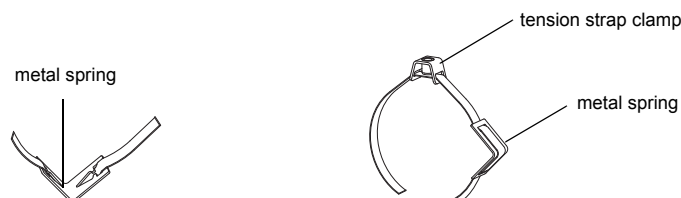

Fig. 7.12: Tension strap with the metal spring and the tension strap clamp
- Insert the long end of the tension strap into the tension strap clamp and the metal spring (see Fig. 7.12). It is not necessary to mount the metal spring: